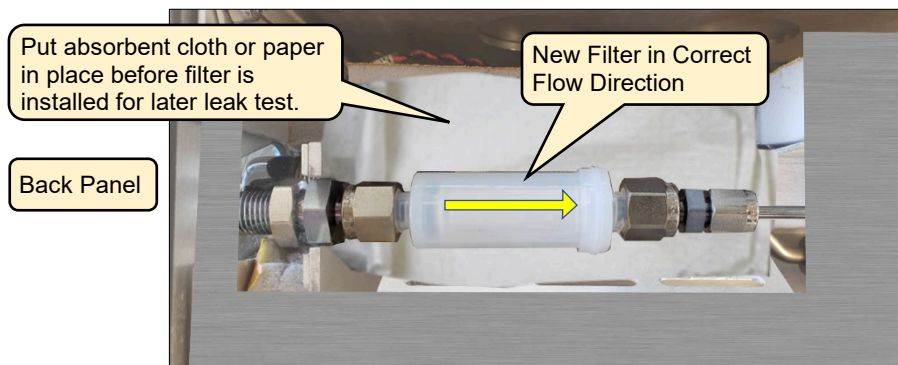

Figure 18: New Filter Installed
When installing the new filter, to ensure proper gas flow direction, make sure the arrow on the filter is pointing away from the back panel of the analyzer as shown in Figure 18.
1. With the instrument still turned off, and absorbent cloth or paper under all relevant fittings, connect a tank of dry gas to the analyzer inlet and set the pressure to 2-3 PSIG (Figure 18).